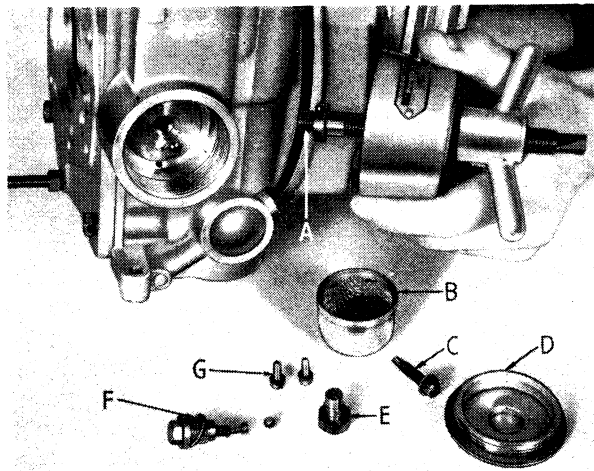

Fig. 10 Inserting the Oil Pump Extractor, Churchill Tool No. L 183.
I. Removing and Refitting the Oil Pump. (Fig. 10).